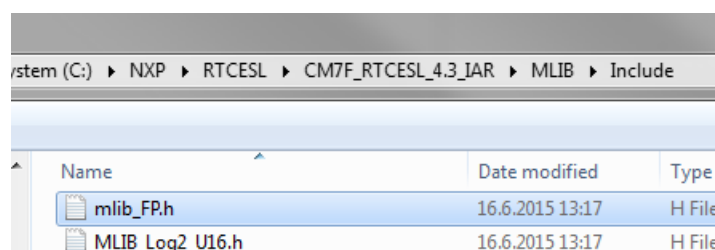

Figure 1-39. Add Files dialog
5. Navigate into the library installation folder C:\NXP\RTCESL\CM7F_RTCESL_4.5_IAR\MLIB\Include, and select the *mllib_FP.h* file. (If the file does not appear, set the file-type filter to Source Files.) Click Open. See Figure 1-39.